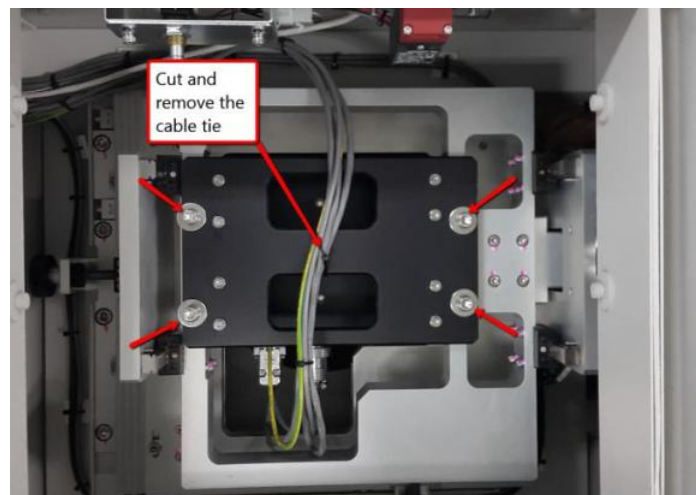

Figure 4
5. Cut the cable tie and unscrew and remove the SHCS M6×60 (4x) as Figure 4.